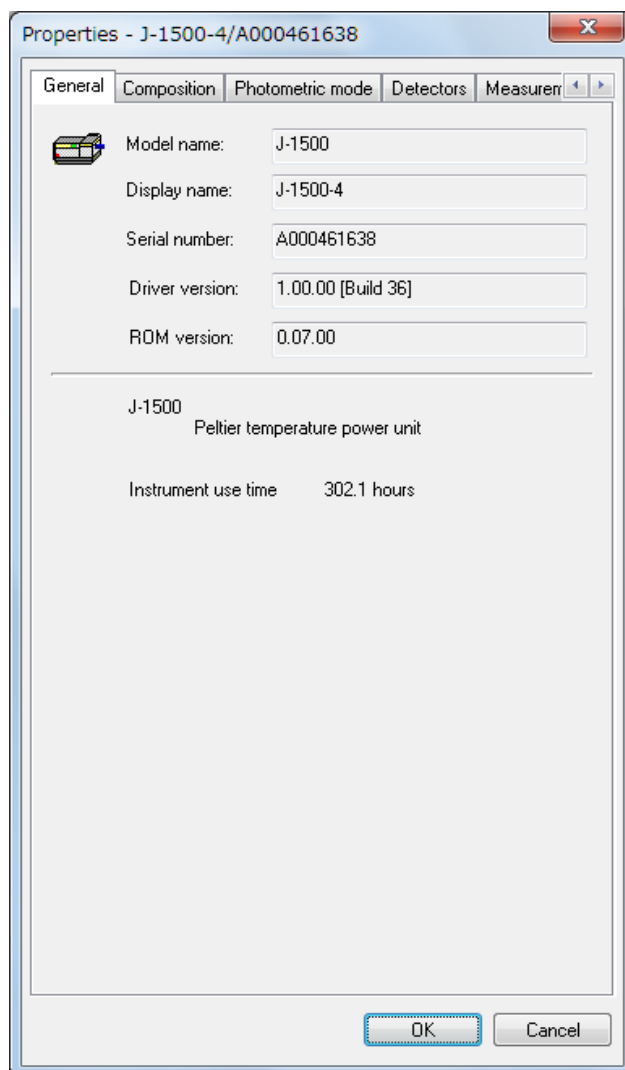

Figure 2.5 [General] tab in [Properties] dialog box
- (3) Restart [Spectra Manager] and start [Administrative Tools]. Right-click the registered CD spectrometer name and select [Properties...] to display the dialog box in Fig. 2.5. First, check that [Model name], [Display name], [Serial number], and [Driver version] are displayed in the [General] tab.